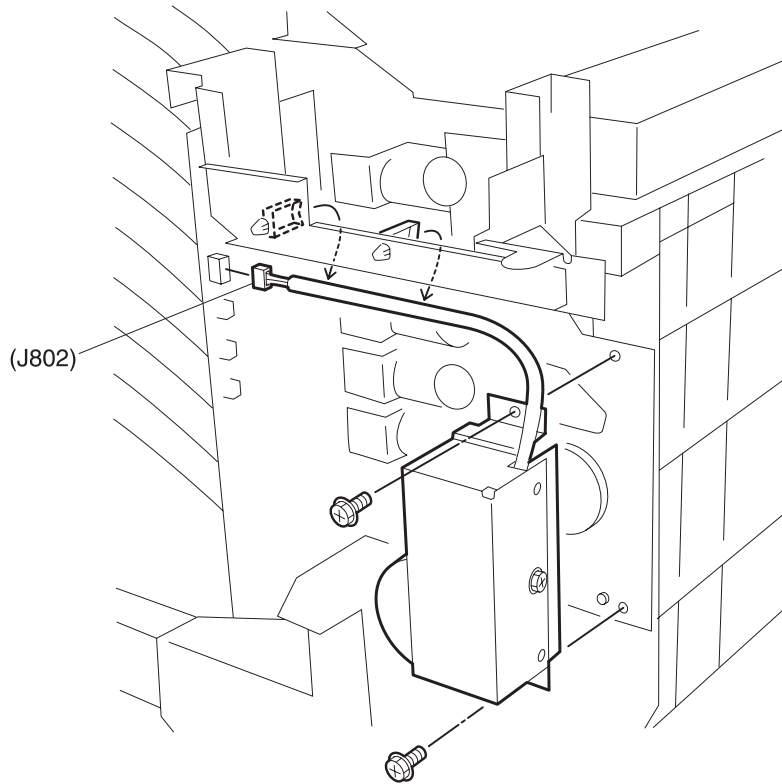

Figure 1
4. Remove the two screws securing the Mailbox Drive Motor Assembly to the frame, and remove the Motor Assembly (Figure 1).
4. Reinstall the Mailbox Drive Motor Assembly to the frame, and use two screws to secure the Assembly to the frame (Figure 1).